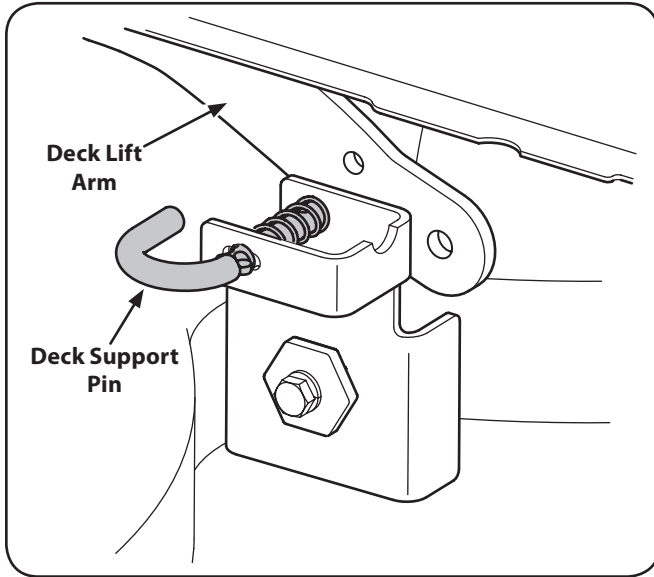

Figure 7-3
- Pull the deck support pin outward to release the deck from the deck lift arm. See Figure 7-3.
- b. Reconnect the deck lift arms. See Figure 7-3.